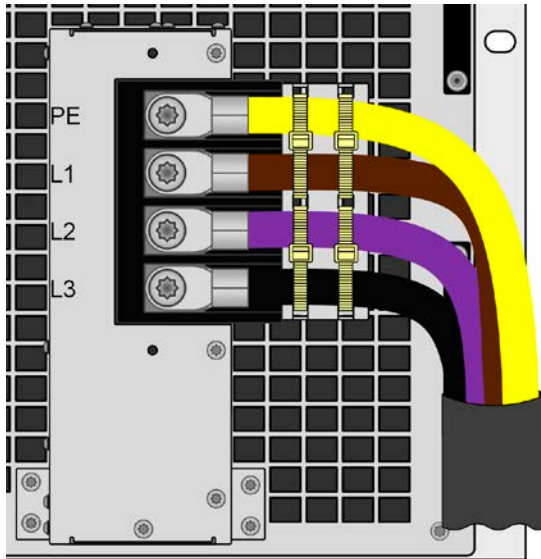

Figure 10 - Fully installed strain relief
1. Arrange the wires that go to the AC terminal horizontally and in front of the pre-mounted bracket, as depicted in *Figure 10* below.